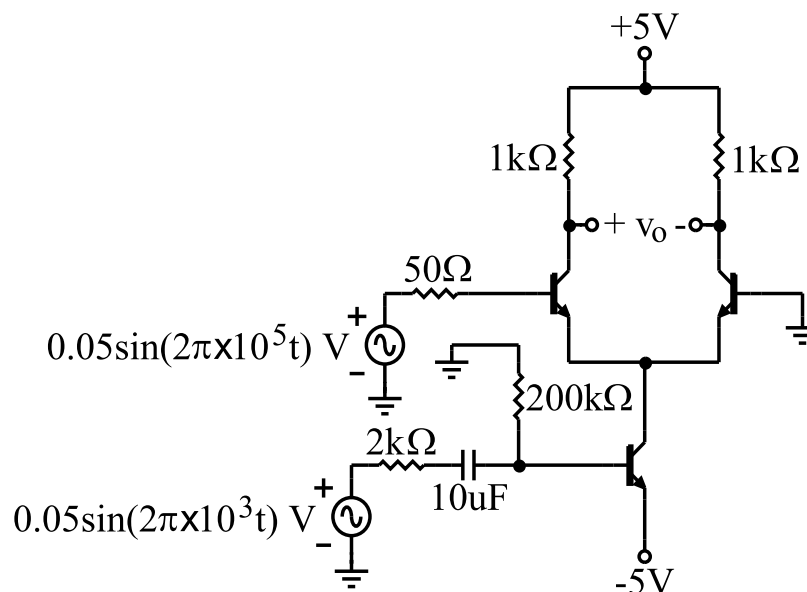

Figure 3.3. The AM Modulator.
The circuit in figure 3.3 shows an AM modulator. “Wire-up” this circuit using your chosen simulation package using 2N2222A transistors (though you only need to look at the output over a few milli-seconds you should set the simulation times to at least 0.5 seconds for transients to subside).
- A. Apply a 50mVp, 1kHz sine wave to the input of the modulator, as shown in figure 3.3, and observe the differential output.